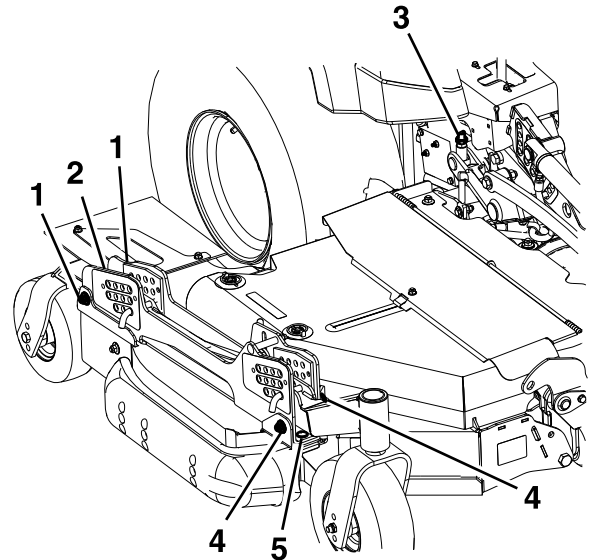

Figure 78
3. The left and right wing decks have blade height adjustments with front and rear adjustment points. To adjust the wing-blade height, first loosen the front and rear height-of-cut hanger mounting nuts. There are 4 locations (2 on each side of the channel) as shown in Figure 78.
- If the deck is too low, tighten the front height-adjustment bolt (Figure 78) by rotating the bottom nut clockwise.
- If the deck is too high, loosen the front height-adjustment bolt (Figure 78) by rotating the bottom nut counterclockwise. Fine-tune the rear adjusters as required.
Adjust the rear wheel height (Figure 78) so that the rear wheel lightly touches the ground with minimal pressure.
4. Measure the back of the wing blades. If either has less than 1.5 mm (1/16 inch) rake, raise the rear of the deck by tightening the left and right rear adjustments (Figure 78) until all 4 blades have a minimum of 1.5 mm (1/16 inch) rake. Adjust the rear wing wheels so that they lightly touch the ground with minimal pressure. Tighten all 4 rear hanger-mount locations (Figure 78).